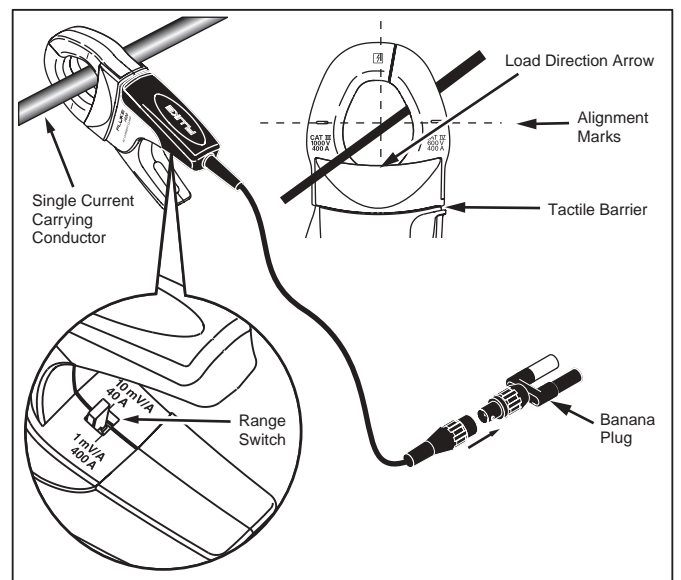

Figure 1. i400s Setup
- Do not hold the Current Clamp anywhere beyond the tactile barrier, see Figure 1.
To use the i400s, refer to "Measurement Considerations" and Figure 1:
**To avoid shock or personal injury, keep fingers behind the tactile barrier, see Figure 1.**